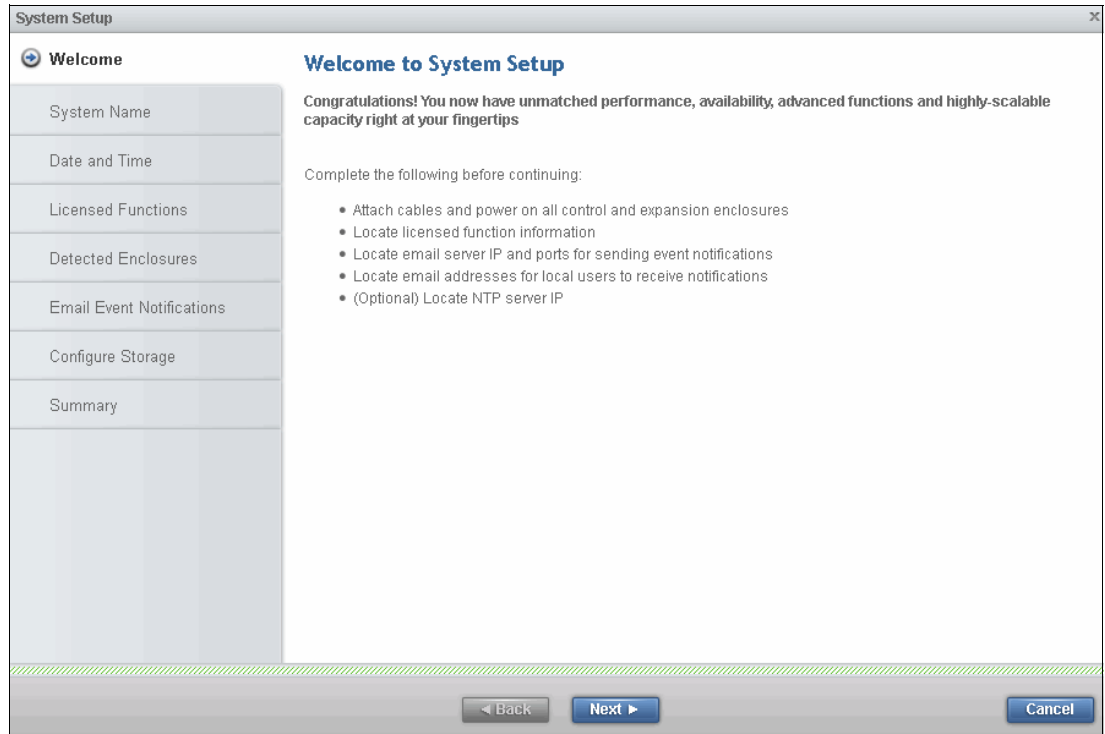

Figure 2-21 GUI Welcome window
2. After you are logged in, a welcome window opens, as shown in Figure 2-21.